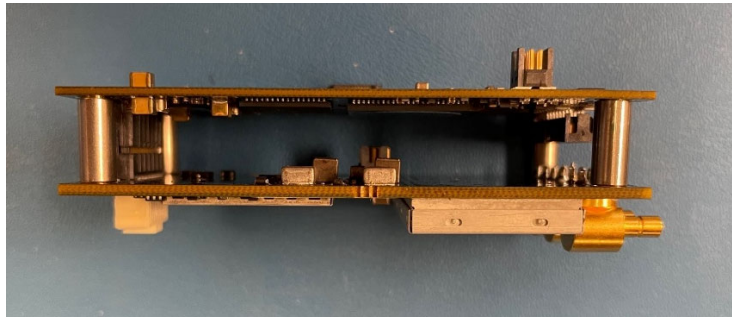

Figure 1: OCR220 Module. Bottom PCB is radio (Figure 2) and Top PCB is processor (Figure 3)
The OCR220 Radio Module (Figure 1) consists of a set of (2) PCB assemblies: a processor board and radio board. The radio board (Figure 2) and processor board (Figure 3) are fastened to each other and used as a board set inside of the host device. This module has been designed exclusively for installation into a client host device called the Wabtec Operator Control Unit (OCU). This module has a form factor of approximately 3.5"x1.5"x1."